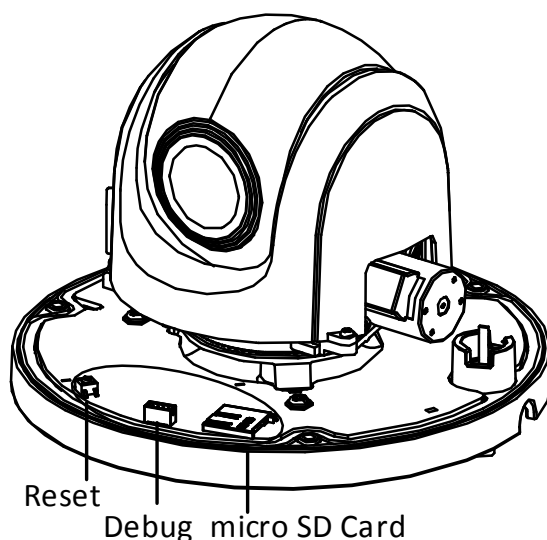

Figure 2-5 Micro SD Card of 3-inch Mini PTZ Camera
1. Loosen 3 screws on the bottom of camera to reveal the micro SD card slot, as shown in Figure 2-5.